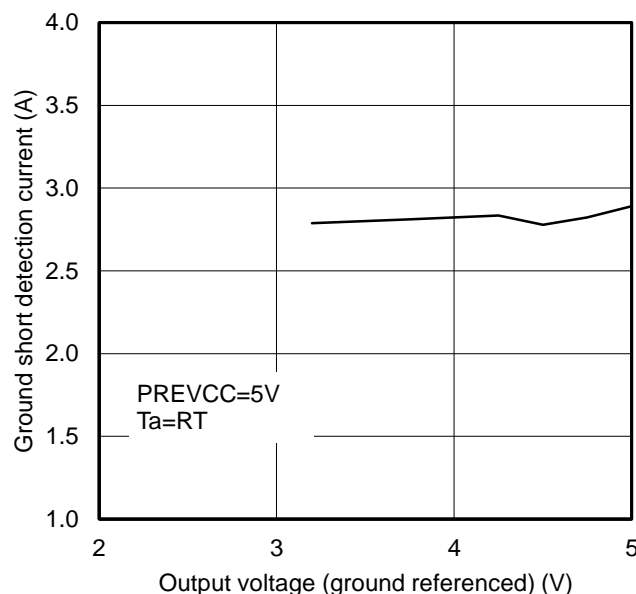

Figure 24. Output voltage vs Ground short detection current
- Ground-fault occurs when SOURCE-side POWER MOS is ON, and the ground-fault protection is performed if ground-fault current is detected. Here, the output is OFF-latched. Note that the ground-fault detection current is dependent on the output voltage. See Figure 24.